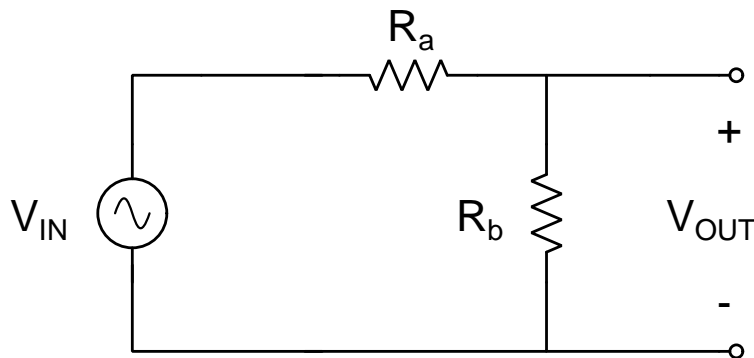

Figure 1: The circuit under test (CUT) is an ideal resistor divider circuit.
Introduction In this lab you are to determine the voltage ratio, V_{OUT}/V_{IN} , produced by the voltage divider with resistors R_a and R_b shown in Figure 1.
2. For each of the three pairs of resistors, place two resistors with the same value on the breadboard to make a series circuit as shown in Figure 1. If the resistors have slightly different values, make sure you keep track of which resistor is which. Record the schematic with the resistor values in your notebook.